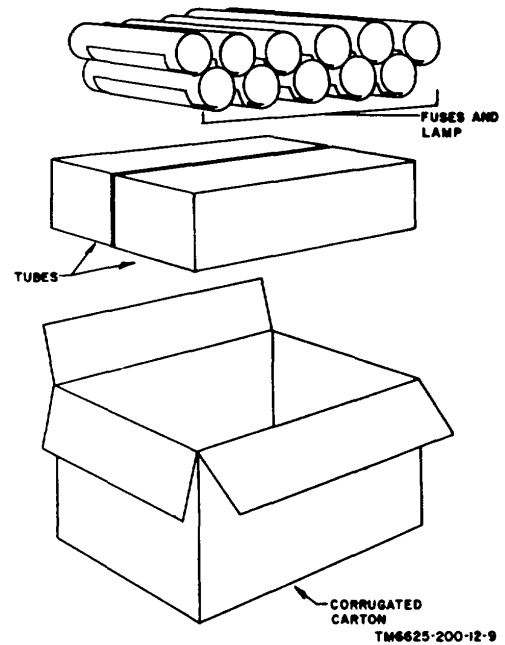

Figure 2-2. Running spares packing diagram.
(1) Open the corrugated carton and fold back the top flaps.
(2) Remove the envelope that contains the technical manuals; open the envelope and remove the technical manuals.
(3) Remove the top pad, the rear pad, the left and right side pads, and the front frame.
(4) Remove the multimeter from the corrugated carton.
*c. Unpacking Running Spares* (fig. 2-2).
(2) Remove the running spares from the carton.
(3) Store the running spares in the storage compartment of the multimeter (para 2-2d).
*d.* Store the running spares in Multimeters (ME-26B/U, ME-26C/U, and ME-26D/U) in the rear storage cavity and check the power cable as follows: (1) Remove the rear cover by giving each of the fasteners a one-quarter turn.